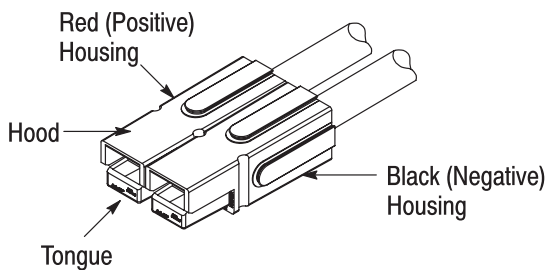

Figure 9
4. As recommended by the Radio Amateur Civil Emergency Service (RACES), stack standard direct current (DC) connectors as shown in Figure 9. Red (as positive) and black (as negative) are the recommended housing colors.